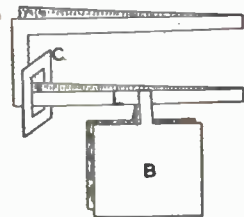

FIG 4.
Fig. 3. See that this piece is passed to the corner so that on turning to the horizontal position it is as in Fig. 4. Now open out the legs of piece (A) a little so that piece (B) can be hung on leg (L) pendant fashion. It will be seen that ultimately the box appears to be suspended by a 'handle'. When these simple operations have been completed, carefully